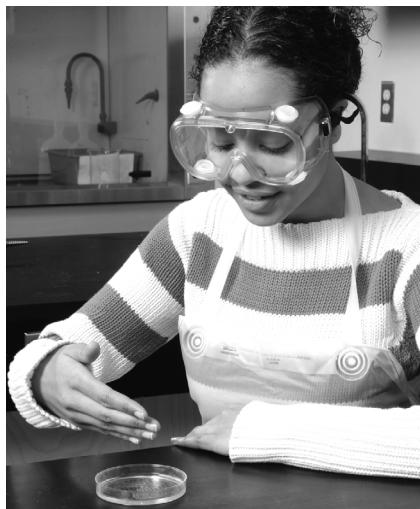

Figure 3
- Pour the contents of the first test tube into an evaporating dish half filled with cold water, and identify the odour of the ester as instructed by your teacher (Figure 3). Repeat for each ester.